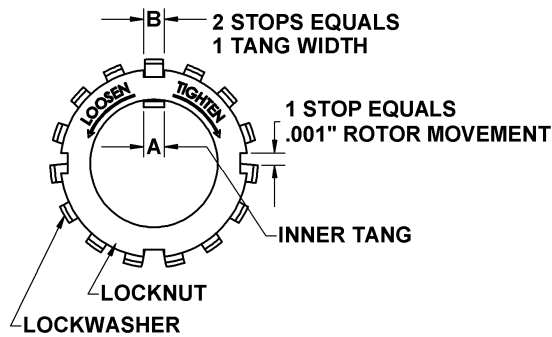

Figure 8– Locknut Assembly
It is important that the bearing locknuts (24A) and lockwashers (24B) be installed and adjusted properly. Overtightening locknuts can cause bearing failure or a broken lockwasher tang. Loose locknuts will allow the rotor to shift against the discs (71), causing wear. See Figure 8.
- Tighten both locknuts (24B) to ensure that the bearings (24) are bottomed in the head recess. **DO NOT** overtighten and bend or shear the lockwasher inner tang.
- Tighten the opposite locknut (24A) by hand until it is snug against the bearing (24). Then, using a spanner wrench, tighten the nut the width of one lockwasher tang "B". Tighten just past the desired tang, then back off the nut to align the tang with the locknut slot. Secure the nut by bending the aligned lockwasher tang into the slot in the locknut. The pump should continue to turn freely when rotated by hand.